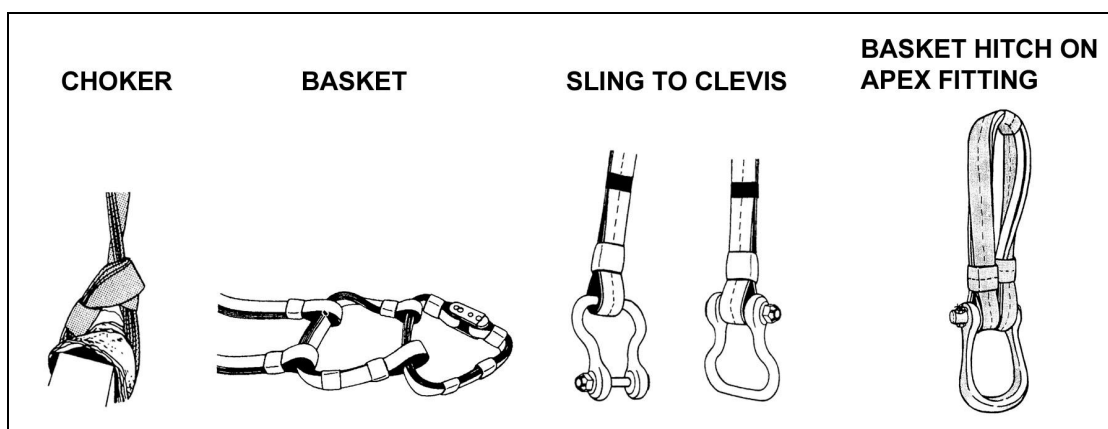

Figure 5-1. Hitches.
b. **Hitches.** When connecting ADS to metal air items or directly to the load, loaders use one of the following hitches (Figure 5-1):